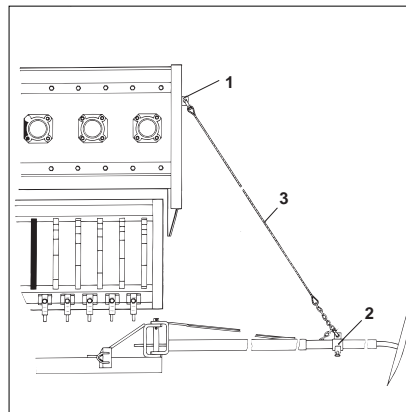

Fig. 10-3
1. Fit the connecting lug (1, fig. 10-3) to the tillage implement. It must be positioned higher than the coulter bar so that the cable is slack when the track marker is raised out of its working position.
2. Attach one end of the cable (3) to the connecting lug (1) and the other end to the connecting lug (2) on the track marker arm, using the shackles provided. The bracing cable must not impede the track marker during operation.